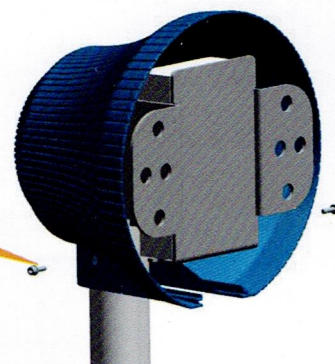

Figure 3.8
⑦ Connect the 220V power cord under the power-off state. The power can only be switched on when the fan installation is completed and all personnel are under safe condition
⑧ Push the upper decorative cover upward to cover the upper mounting, and fix it by installing two M4\*10 hexagonal screws, flat washers, and spring washers on the extension tube to prevent it from sliding down (see Figure 3.7 and Figure 3.8)